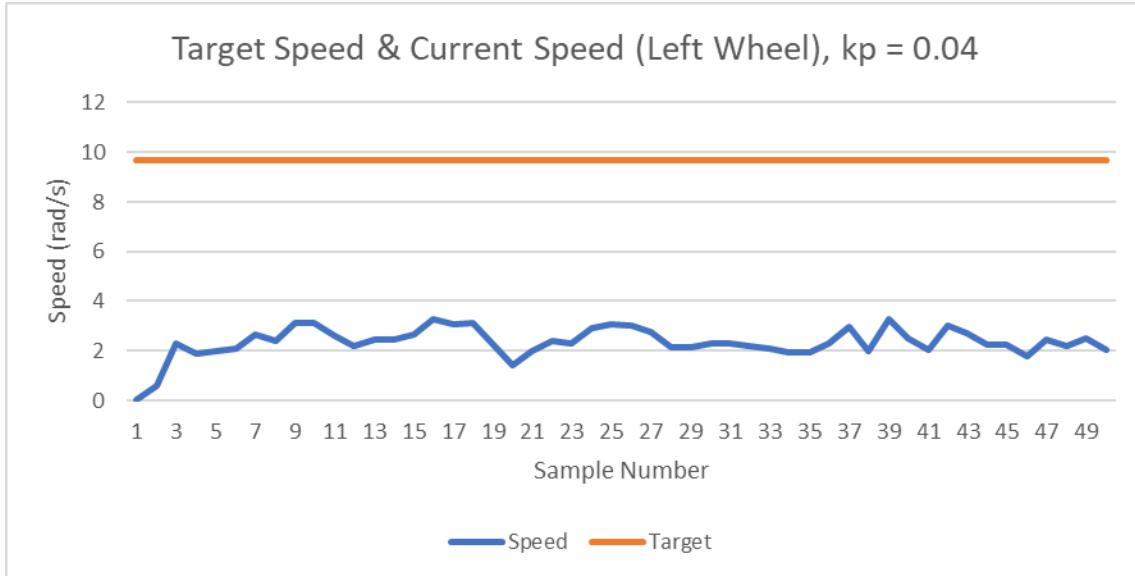

Figure 1. Target & Current Speeds using proportional control
- a. Comment out the code in Figure 1.